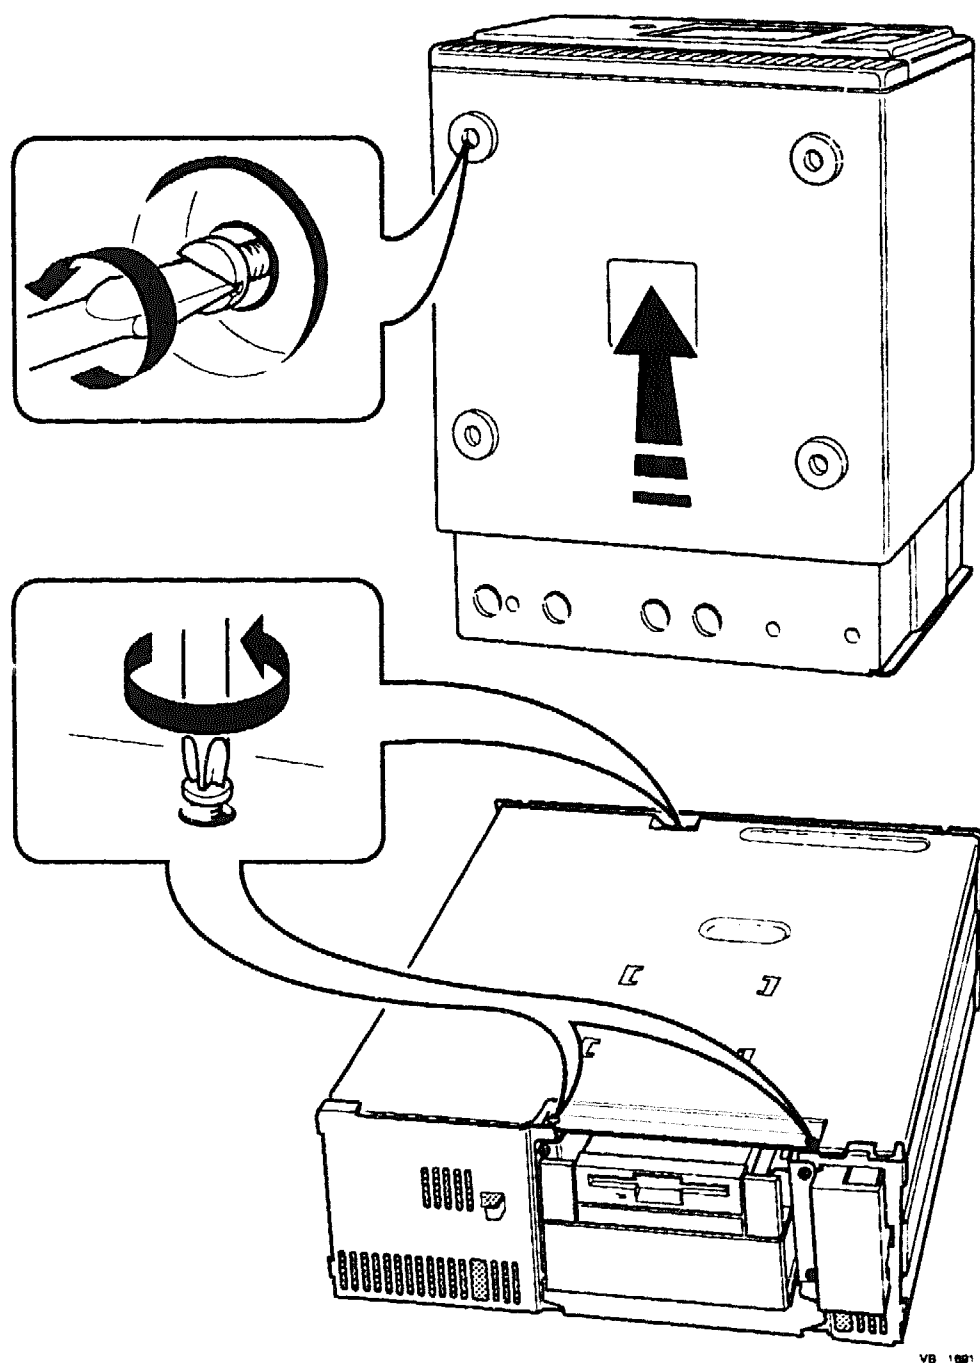

Figure 5-2 Removing the Cover
6. Stand the system box up with the rear of the system box against the work surface and the bottom facing you (Figure 5-2).